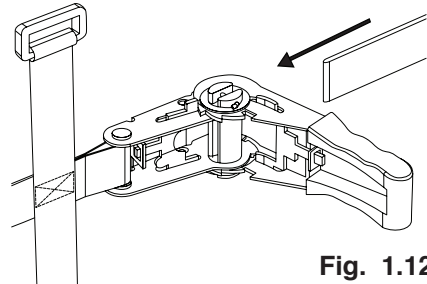

Fig. 1.12
j. With the Ratchet open, feed the loose end of the strap through the center slot so that the strap is coming towards the top of the ratchet handle (Fig. 1.12). Do this until all the excess strap is through the ratchet center. **Make sure that the strap has not twisted.**